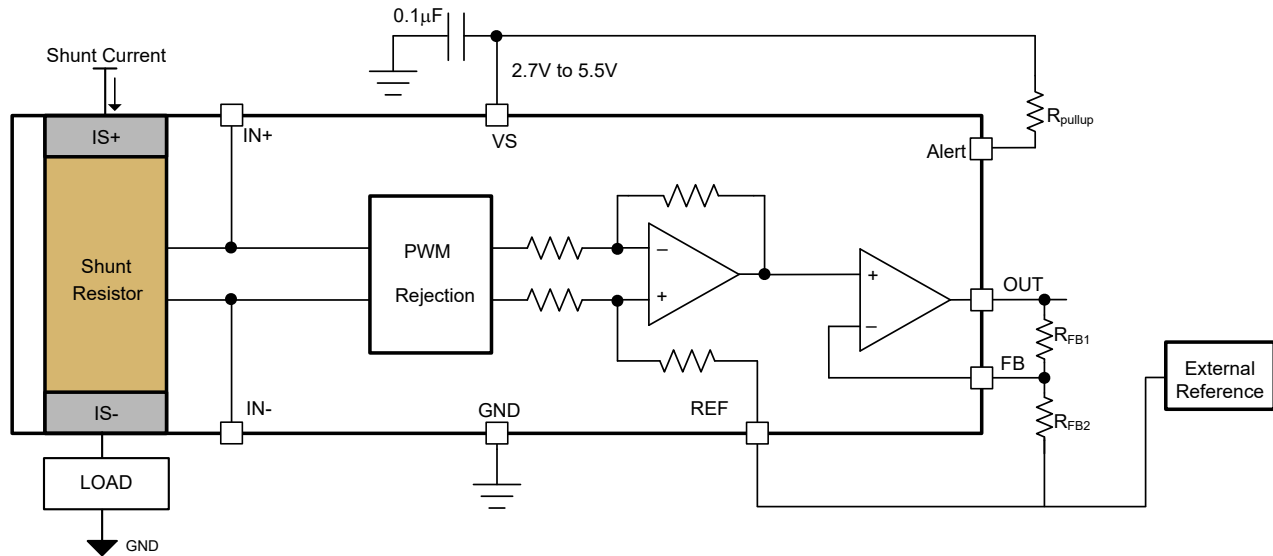

Figure 6-7. Adjustable Gain Setting With External Resistor Divider
The INA790x features adjustable gain with two external resistor network. The default gain is 20mV/A, and with added external adjustable gain resistor network, total gain (G) can range up to 400mV/A. Figure 6-7 shows two external resistors R_{FB1} and R_{FB2} configured for added external gain. Equation 2 can be used for calculating external adjustable gain and Equation 3 shows the total gain of the system with external adjustable gain. The REF pin and one end of resistor R_{FB2} is connected to external reference based on needed voltage at OUT pin as described in Adjusting the Output With the Reference Pin.